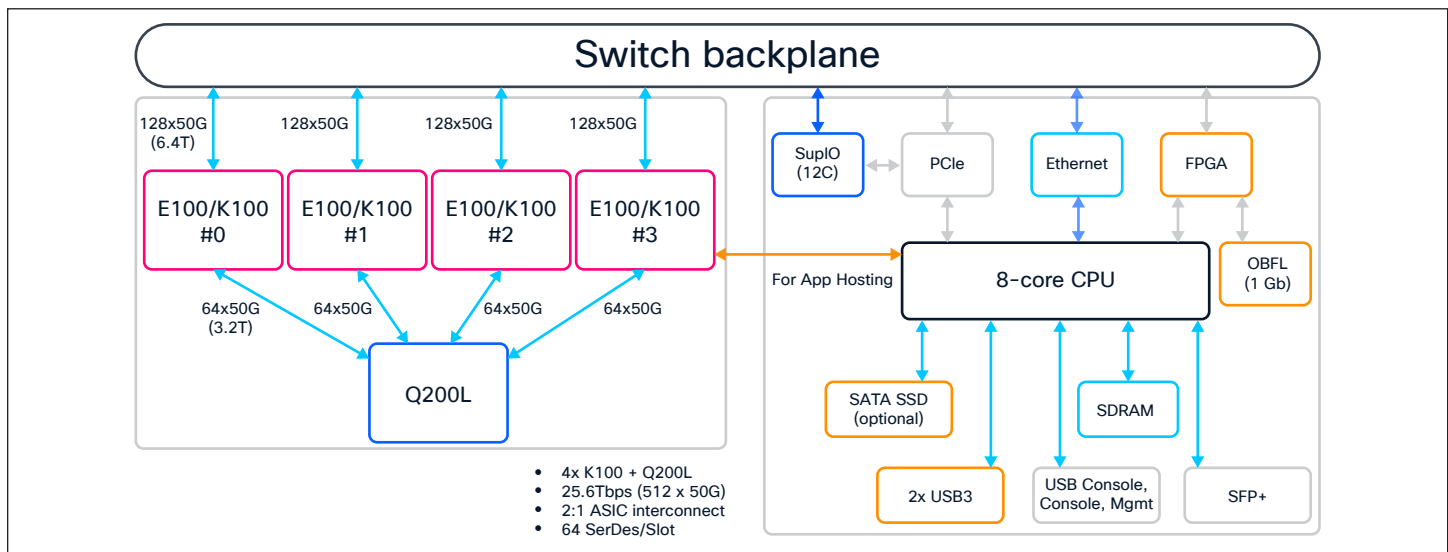

Figure 11. Supervisor Engine 3 block diagram
- This means the C9610 backplane is using only 50 GE speed for the Supervisor 3/XL. (Figure 11).
The Cisco C9610 Series Supervisor 3/XL is powered by one x86 CPU processor and five Cisco Silicon One ASICs (Figure 11). Both the Supervisor Engine 3 and the Supervisor Engine 3 XL provide 51.2 Tbps (25.6 Tbps full duplex). With the Cisco C9610R chassis, the Supervisor 3/XL provides each slot with 6.4 Tbps (3.2 Tbps full duplex) bandwidth.